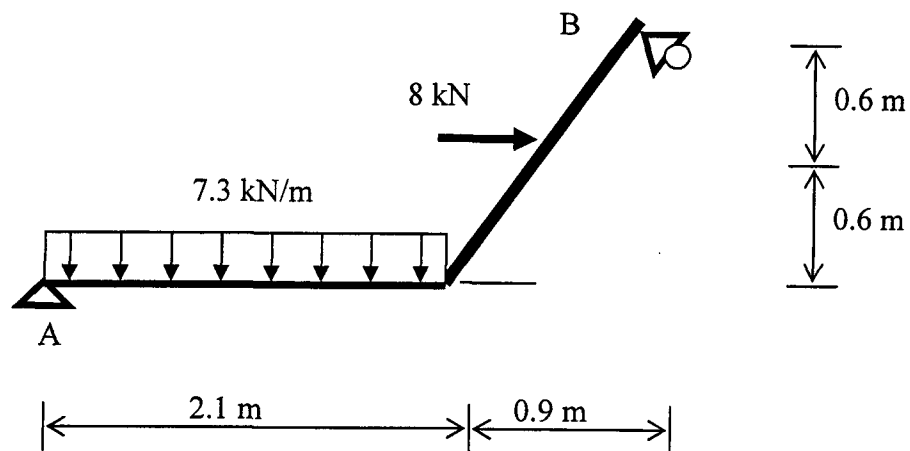

Figure 3.0/Rajah 3.0
3. (a) Determine the reaction force at A and B on the beam shown in **Figure 3.0** below.